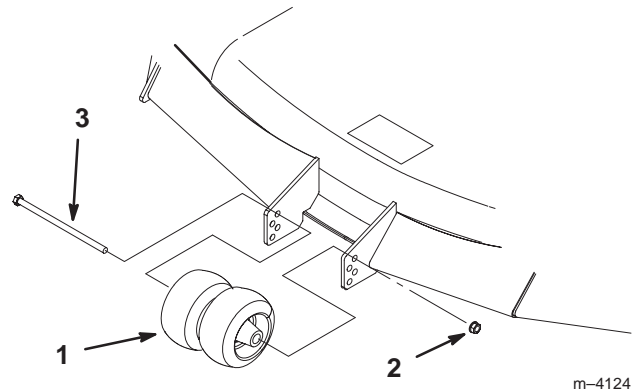

Figure 22
2. After adjusting the height-of-cut, remove the bolt and nut (Fig. 22).
3. Select a hole so that the gage wheel is positioned to the nearest corresponding height-of-cut desired (Fig. 22).
4. Reinstall the bolt, center rollers, and nut (Fig. 22).